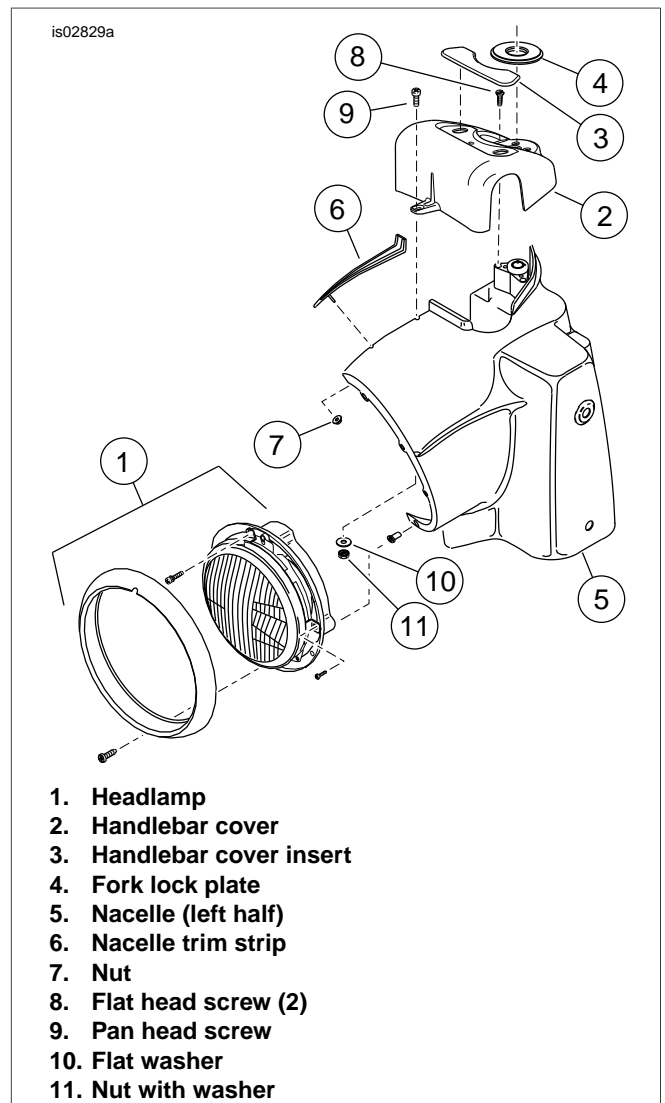

Figure 5. Nacelle, Headlamp and Handlebar Cover (FLHR/C Shown)
12. See Figure 5. Reach inside the headlamp nacelle (5), remove the flange nut (7) to release the trim strip (6) at the top of the nacelle.
**For Australia, Brazil, England, Europe and Japan:** See Figure 5. The flat head screws (8) have break-away heads and are not easily removable. To remove screws with break-away heads, make a pilot hole in the top of each screw with a center punch and back out the screw with a 1/8 in (3 mm) left-hand drill bit.